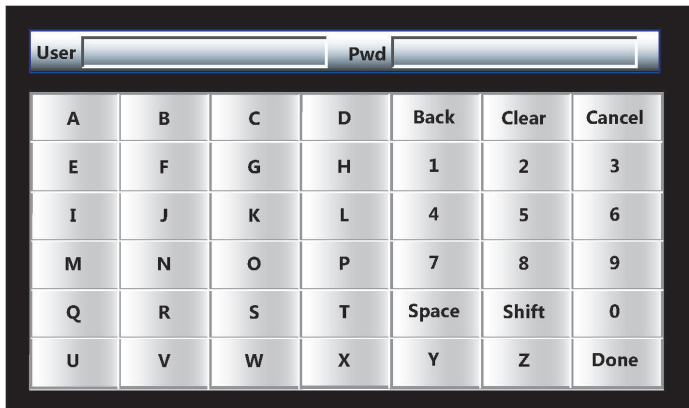

Fig. 28: Keyboard
2. Use the pop-up Keyboard to log in (Fig. 28). Tap on the User field to enter the user name. Tap on the Pwd field to enter the user password.